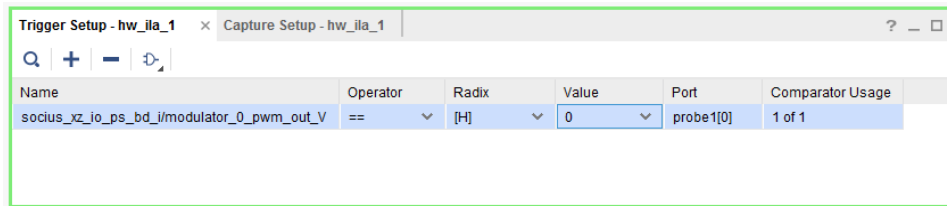

Figure 3.16: Changing the Compare Values in the Trigger Setup window
5. Now, when the ILA debug probe **modulator_0_pwm_out_V_1** is in the **Trigger Setup** window, we will create trigger conditions and debug probe compare values. In the **Trigger Setup** window, leave **==** (equal) value in the **Operator** cell, **[H]** (Hexadecimal) value in the **Radix** cell and set the **Value** parameter to be **0** (logical zero), as it is shown on the Figure 3.16.